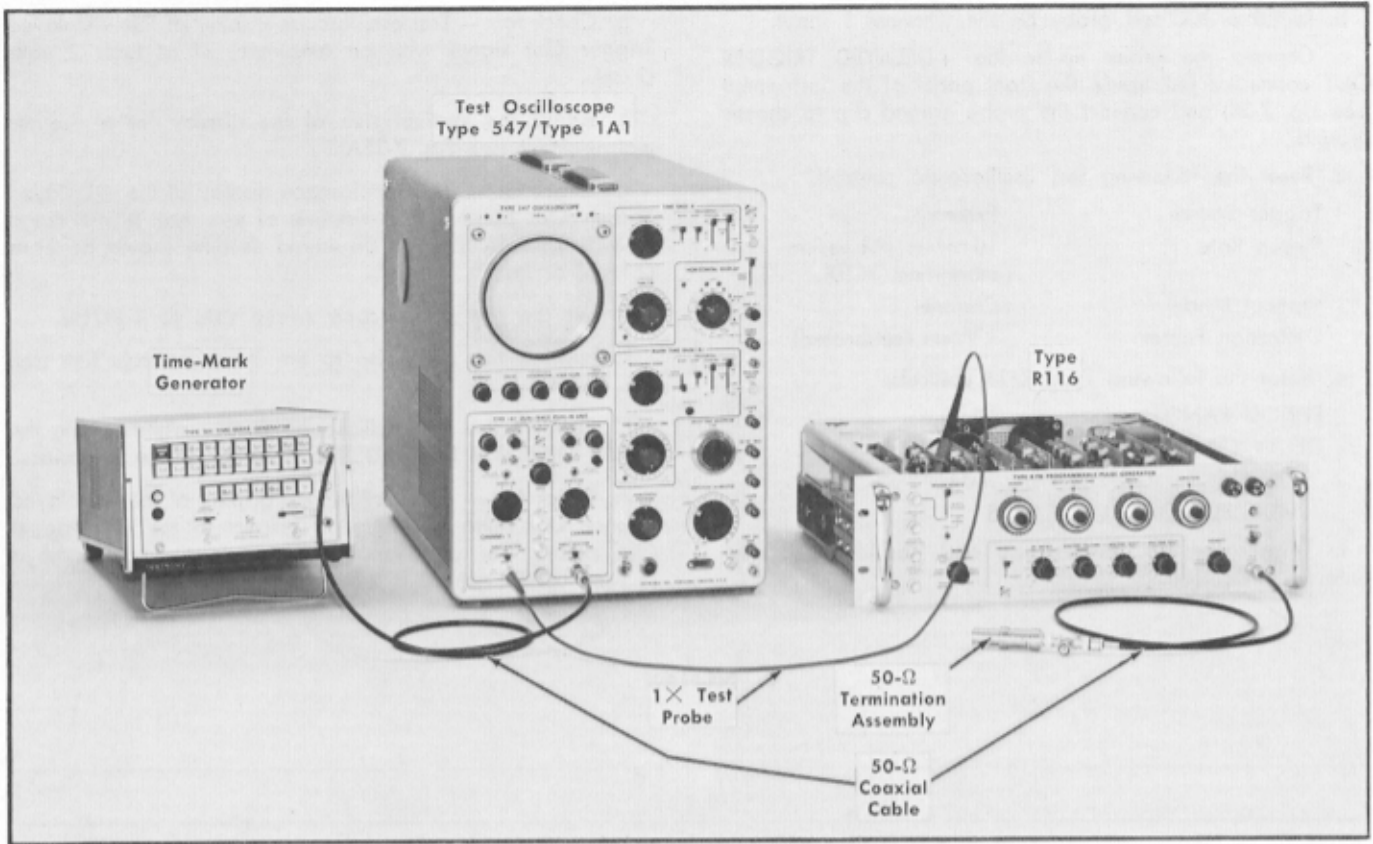

Fig. 7-36. Initial test equipment setup for calibration steps 33 through 36.
- a. Test equipment setup is shown in Fig. 7-36.
- m. If R502 is adjusted, reset the period multiplier and oscilloscope sweep rate controls as given under Fig. 7-36 and recheck the period timing adjustments as in steps d through k.